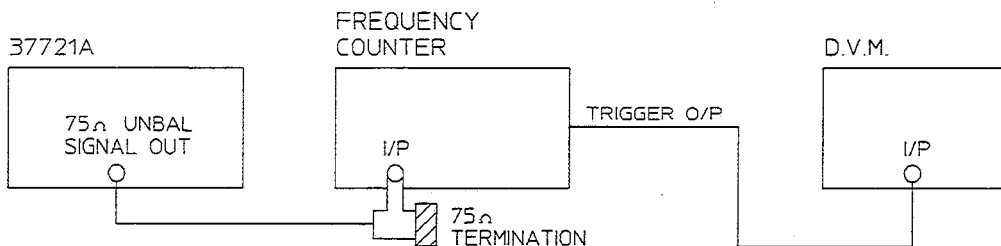

Figure 3-1. Test Hook-up
3. Connect the equipment as shown in Figure 3-1.
10. Connect the equipment as shown in Figure 3-1. Set the Frequency Counter function to FREQ A and set the Trigger Level to give a reading of approximately +800 mV on the DC Voltmeter.